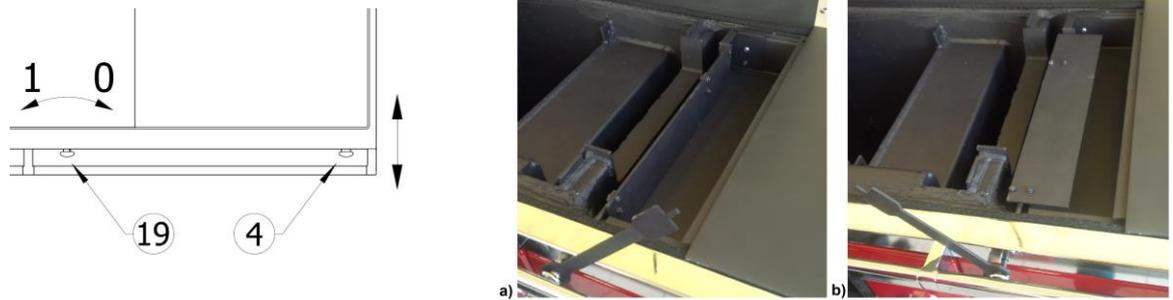

Figure 13
When the system is cold, power regulator (combustion regulator, thermostat) damper (Fig. 9, pos. 22) located on the ash pan door (Fig. 1, pos. 8) should be open (knob Fig.1, pos. 9 turned to max). The button of the butterfly handle (Fig. 1 and Fig. 13, pos. 4) should be pulled out and the rosette button for heating-baking (Fig. 13, pos. 19) should be turned to the left to position "1" using a key (Fig.13,b). The butterfly and rosette for heating-baking opened in this way allow starting of fire. Later, when the fire in the cooker is burning, set the regulator damper to
While baking, the butterfly (Fig. 1, pos. 4) for fire starting has to be closed, the rosette button for heating-baking has to be in position "1" (Fig. 13, pos. 19), power regulator has to be open and the stove covers have to be raised using the key (Fig. 18). After you finish baking, cooking or frying, place the power regulator in desired position and the rosette button for heating-baking to position "0".